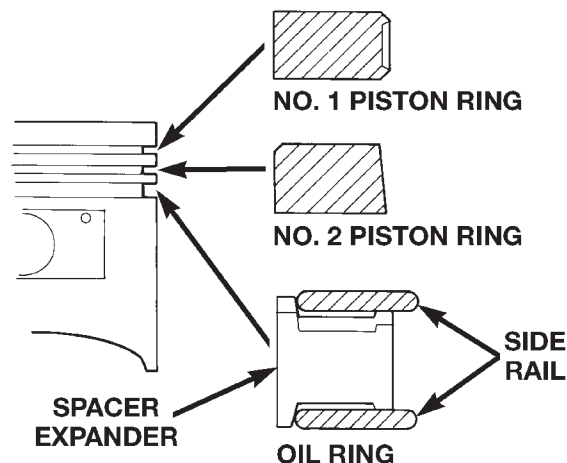
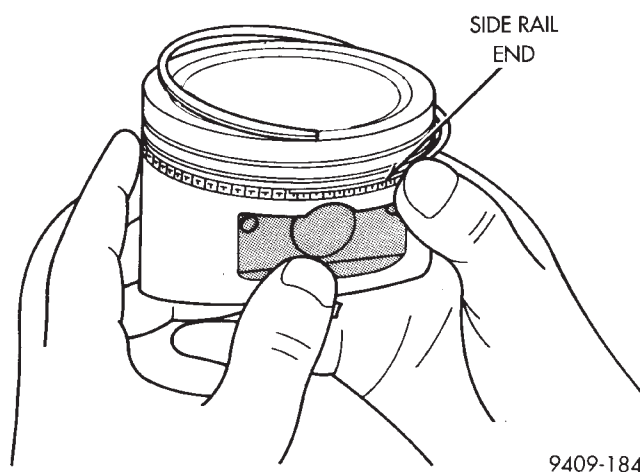

Fig. 78 Piston Ring Installation
Fig. 79 Installing Side Rail
- (1) Install rings with manufacturers I.D. mark facing up, to the top of the piston (Fig. 78).
- f. Install the side rail by placing one end between the piston ring groove and the expander. Hold end firmly and press down the portion to be installed until side rail is in position. **Do not use a piston ring expander (Fig. 79).**
- (2) Install upper side rail first and then the lower side rail.
- (3) Install No. 2 piston ring and then No. 1 piston ring (Fig. 78).